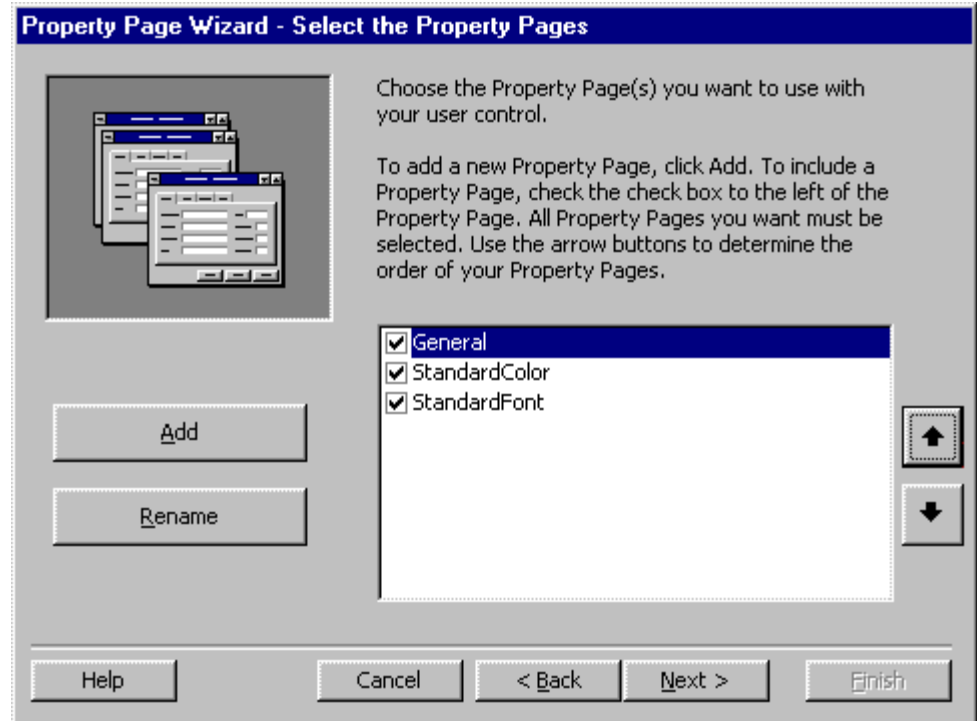

Figure 18. Use the Property Page Wizard to use existing and add new property pages.
4. **Add custom pages:** The second page proposes two standard property pages, StandardFont and StandardColor. Because our control uses font and color properties, leave both enabled. **Click the Add button** to add a new page, named **General**, and use the up and down arrows to move it to the top of the list. Figure 18 shows the wizard page once you've added the new page.